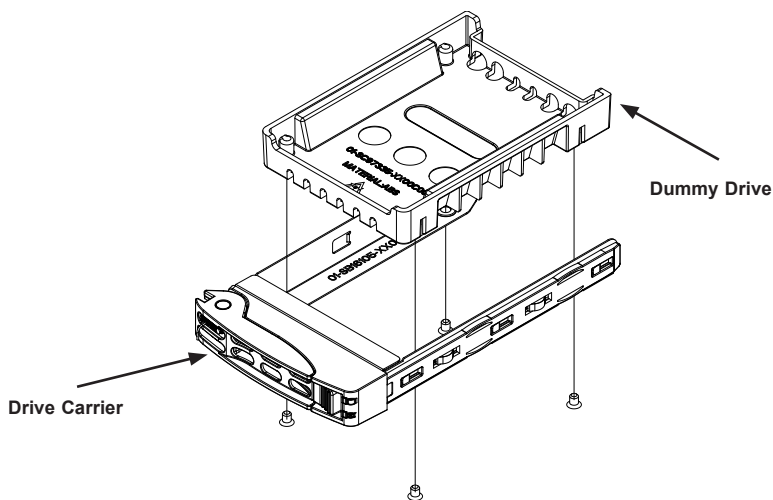

Figure 6-5. Removing a Dummy Drive from Carrier
3. Remove the dummy drive from the carrier (Figure 6-5).